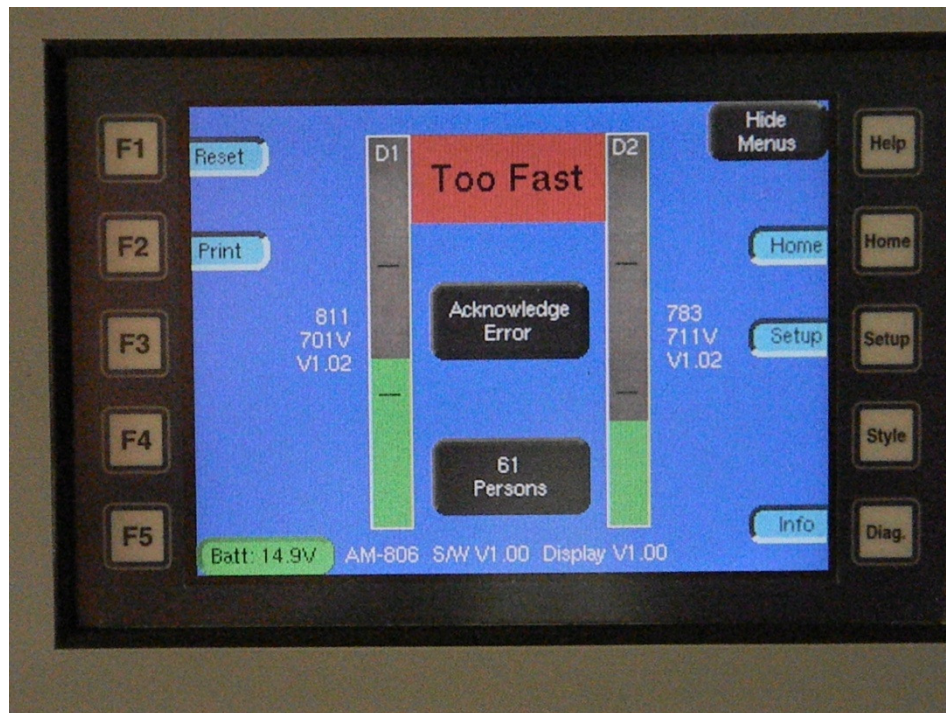

FIGURE 19
7.3.2.2 MINIMUM TIME in the sensitive area of the detectors is 0.1 seconds. IF A PERSON OR PHYSICAL OBJECT PASSES THROUGH THE AREA IN LESS THAN 0.1 SECONDS THE INSTRUMENT WILL INDICATE TOO FAST. This alarm will require resetting the system on the VGA screen. The TOO FAST screen is shown in FIGURE 19. To reset this alarm touch the ACKNOWLEDGE ERROR button.